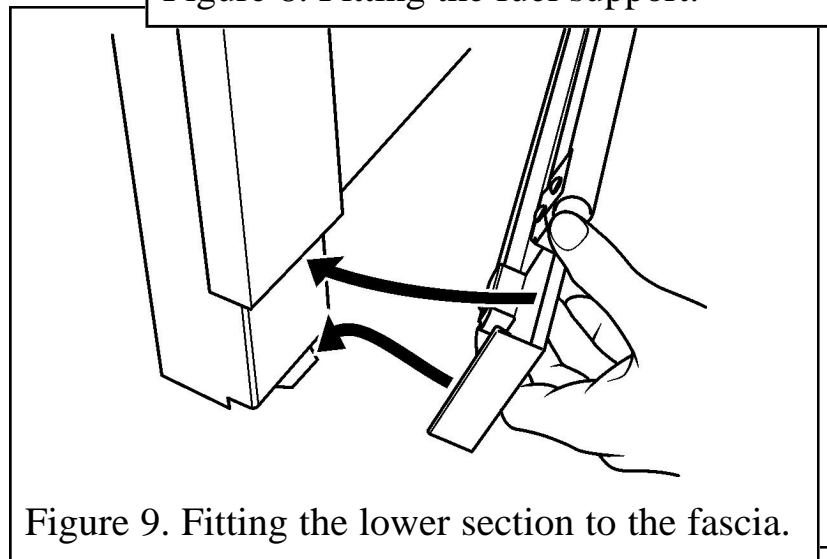

Figure 9. Fitting the lower section to the fascia.
5. The lower section of the fascia is secured with magnets. Locate it as in figure 9. The bottom of the lower section should sit on the tags as shown.